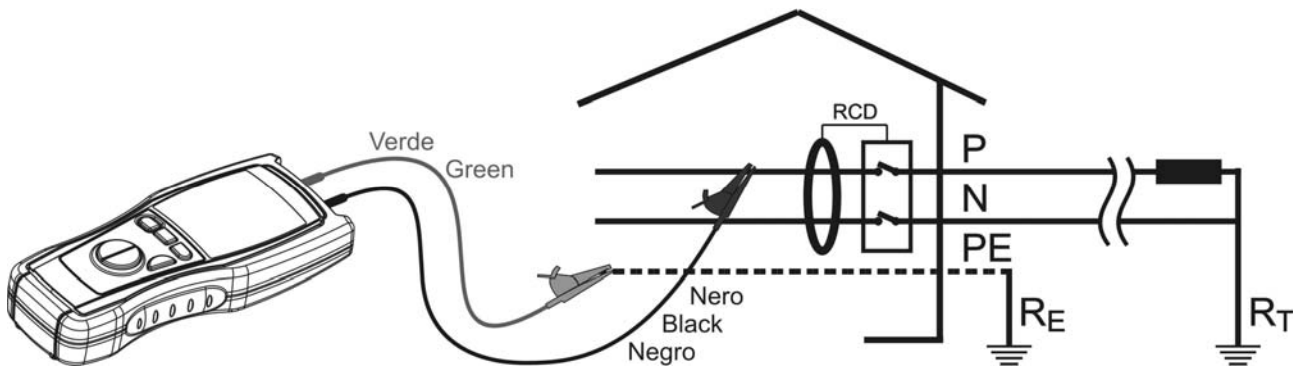

Fig. 13: Connection of the instrument's terminals during AUTO test
5. Connect the green cable to the protective conductor (earth) and the black cable to the phase conductor (Fig. 13) or insert the Shuko cable in a power socket